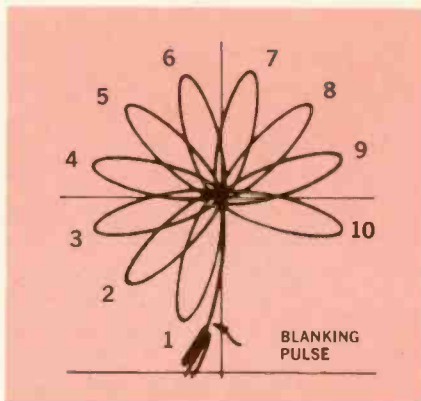
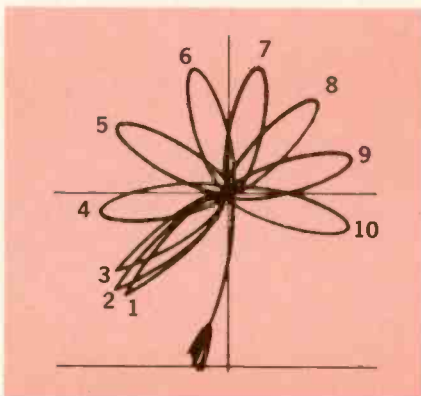

Fig. 4—Color bars in vector form with the ATC switch in its OFF position.
Fig. 5—Corrected color bar vectors with the ATC level adjusted for proper correction.
The chroma alignment must be correct before attempting to align the ATC. Then proceed with the following set-up: (1) Adjust the TV set to view rainbow color bars, fine tune properly and switch the AFT ON, the ATC OFF. (2) Set the color killer control counterclockwise. (3) Connect a scope to terminal point "EE." (4) Adjust potentiometer R425 (the ACC control on the ATC) for 12v P-P of signal. (5) Connect the scope to the (R-Y) pad and check for the proper tint range. See the manual if touch-up is required. (6) Connect the scope's vertical input to the (B-Y) pad ("12") and the scope's horizontal input to pin 2 of V706, using a 0.05 μ f capacitor for the latter. (7) Set the scope for external sweep and adjust the scope's vertical and horizontal gain to obtain a symmetrical vector display as shown in Fig. 4. (8) Adjust the color control for a vector display with 1/2 to 3/4 bars of blanking (Fig. 4). (9) Adjust the tint control to place the first bar nearly on top of the blanking (Fig. 4). (10) Push the ATC control ON and turn it to approximately mid-range. (11) Adjust potentiometer R402 (the ATC level) to pull 3 bars together without crossover (Fig. 5). (12) Check the ATC control range—the minimum